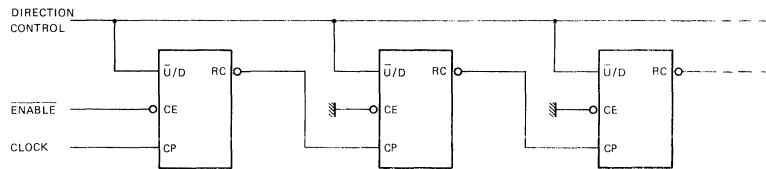
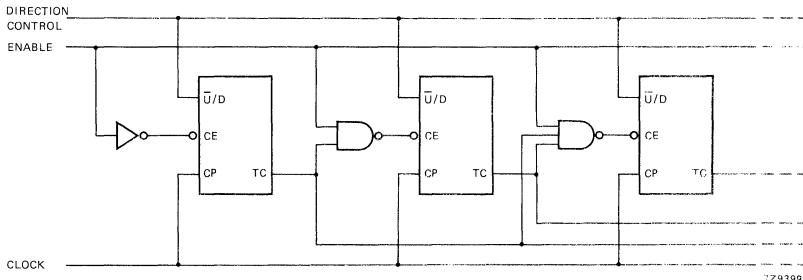

Fig. 5 N-stage ripple counter using ripple clock.
Fig. 7 Synchronous n-stage counter with parallel gated carry/borrow.
Overflow/underflow indications are provided by two types of outputs, the terminal count (TC) and ripple clock ( $\overline{RC}$ ). The TC output is normally LOW and goes HIGH when a circuit reaches zero in the count-down mode or reaches "9" in the count-up mode. The TC output will remain HIGH until a state change occurs, either by counting or presetting, or until U/D is changed. Do not use the TC output as a clock signal because it is subject to decoding spikes. The TC signal is used internally to enable the RC output. When TC is HIGH and  $\overline{CE}$  is LOW, the  $\overline{RC}$  output follows the clock pulse (CP). This feature simplifies the design of multistage counters as shown in Figs 5 and 6.
In Fig. 5, each  $\overline{RC}$  output is used as the clock input to the next higher stage. It is only necessary to inhibit the first stage to prevent counting in all stages, since a HIGH on  $\overline{CE}$  inhibits the  $\overline{RC}$  output pulse as indicated in the function table. The timing skew between state changes in the first and last stages is represented by the cumulative delay of the clock as it ripples through the preceding stages. This can be a disadvantage of this configuration in some applications.
In Fig. 7, the configuration shown avoids ripple delays and their associated restrictions. Combining the TC signals from all the preceding stages forms the  $\overline{CE}$  input for a given stage. An enable must be included in each carry gate in order to inhibit counting. The TC output of a given stage is not affected by its own  $\overline{CE}$  signal therefore the simple inhibit scheme of Figs 5 and 6 does not apply.